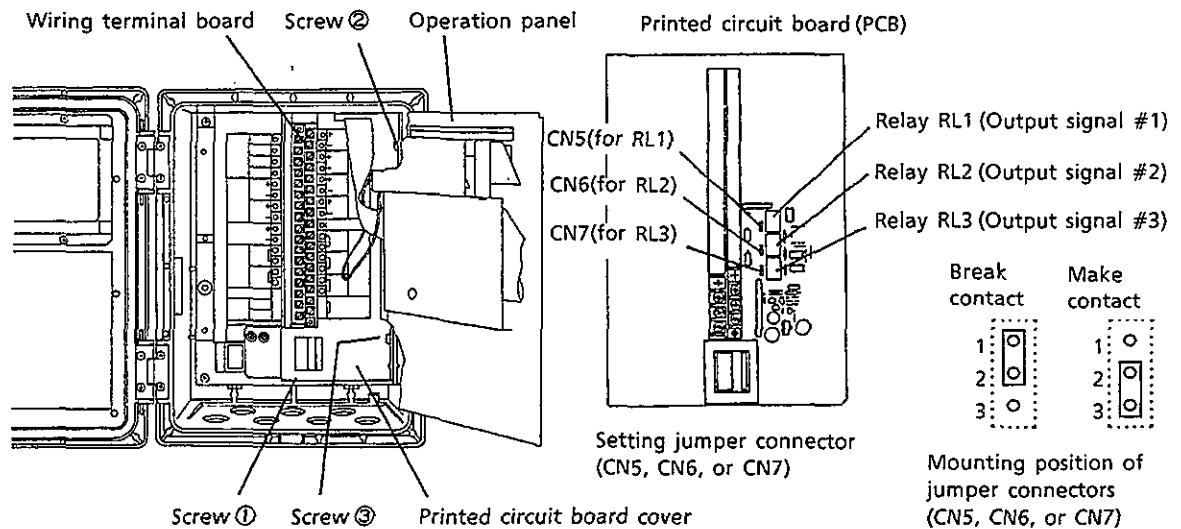

Figure 7.3 Setting Position of Jumper Connector and Setting Method
- (1) Turn off the power switch in the converter.
- (2) Open the operating panel and remove the PCB cover. Remove a screw ① in Figure 7.3 and also loosen screws ② and ③.
- (3) Set the corresponding jumper connector position again and change the type of contact. For obtaining a make contact, set the jumper connector to pins 2 and 3, while for obtaining a break contact, set the jumper connector to pins 1 and 2. When the set work has been done, restore the PCB cover and turn on the power switch.